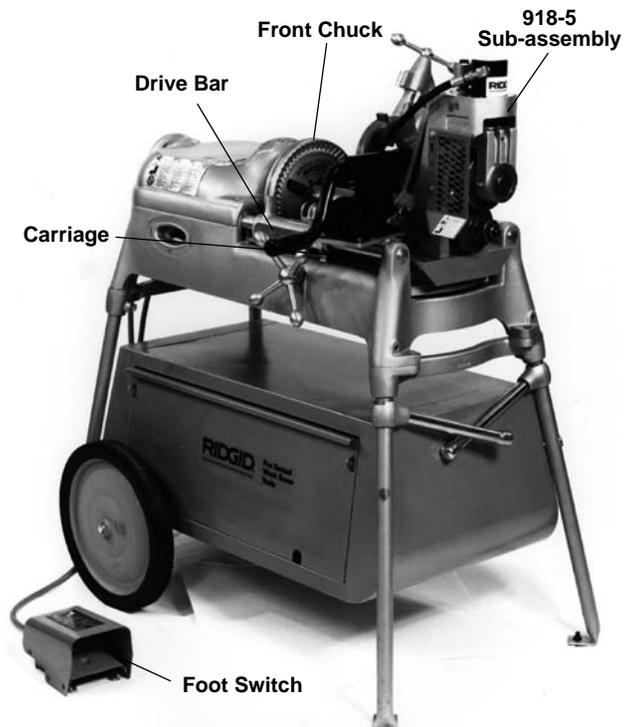

Figure 8 – 918-5 Roll Groover on 535 Threading Machine
2. Place 918-5 on far side of carriage rail, lower onto front rail and tighten front chuck (Figure 8).